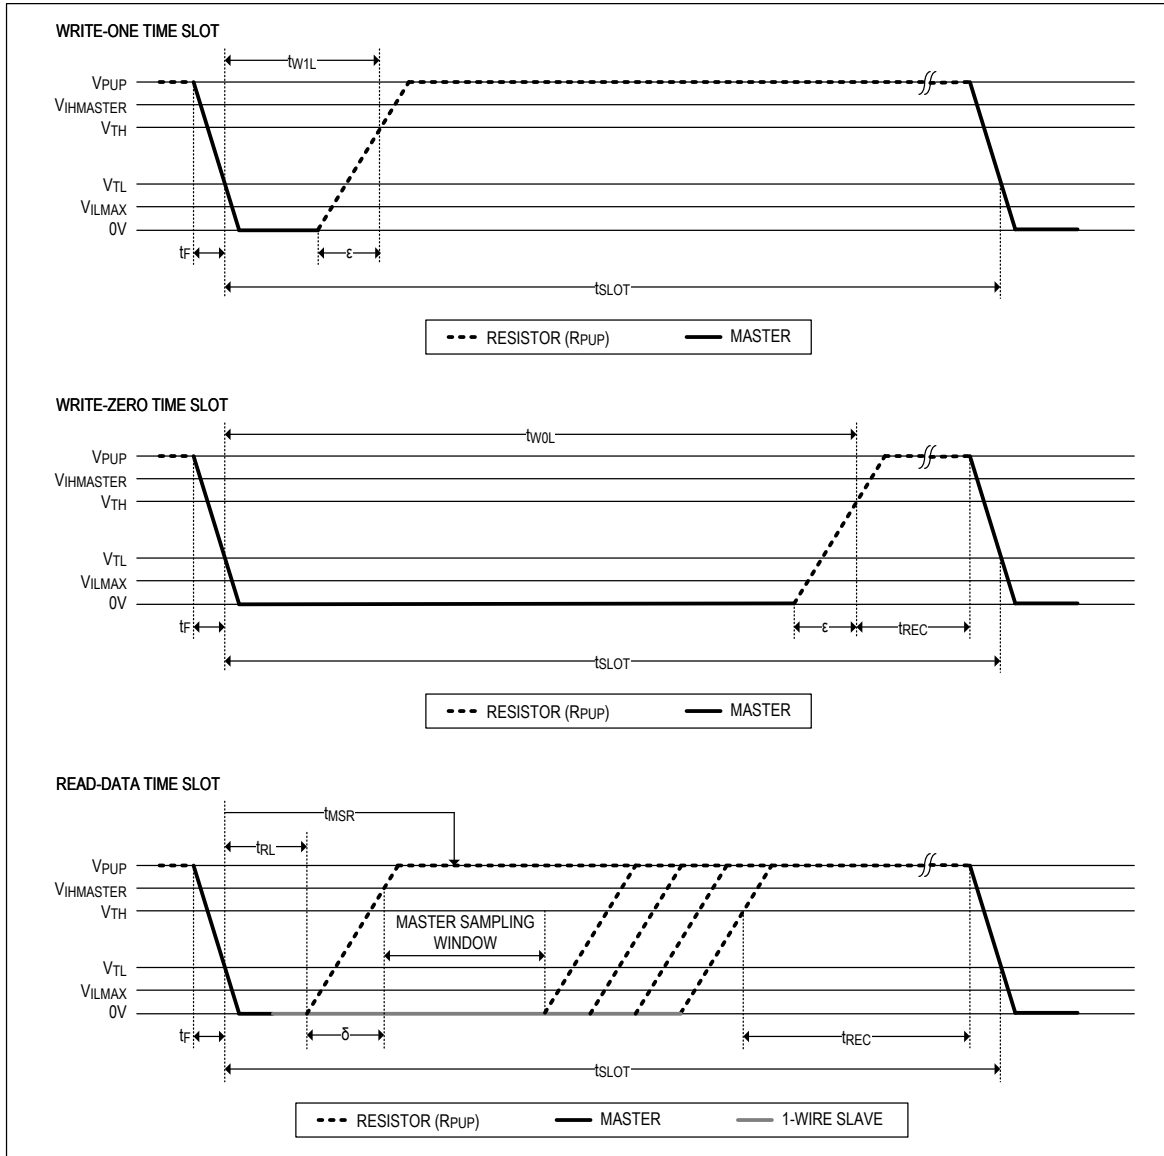

Figure 5. 1-Wire Read/Write Timing Diagrams
- Note 17:** ϵ in Figure 5 represents the time required for the pullup circuitry to pull the voltage on IO up from V_{IL} to V_{TH} .
- Note 18:** δ in Figure 5 represents the time required for the pullup circuitry to pull the voltage on IO up from V_{IL} to the input-high threshold of the bus master.